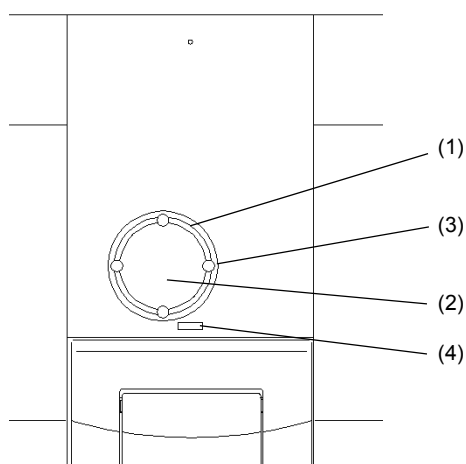

Fig. 5.6 Silica Gel Case
2. Take off the 4 screws ((3) in Fig. 5.6) to fix the lid of the Silica gel case, and then take off the lid of the Silica gel case ((2) in Fig. 5.6).
5. Insert the tip of the Top cover into the hole ((4) in Fig. 5.6), and then put it on the FTIR after replacement.